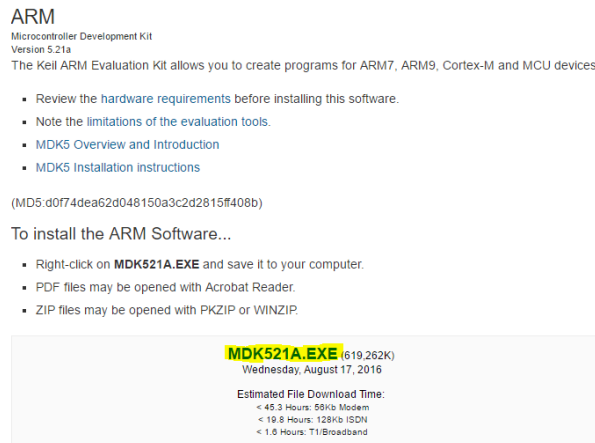

Figure 4: Click the EXE link emphasized by yellow (You might see a different version which is current)
- Click the MDK5xx.EXE link, where xx represents the current software version (Figure 4)